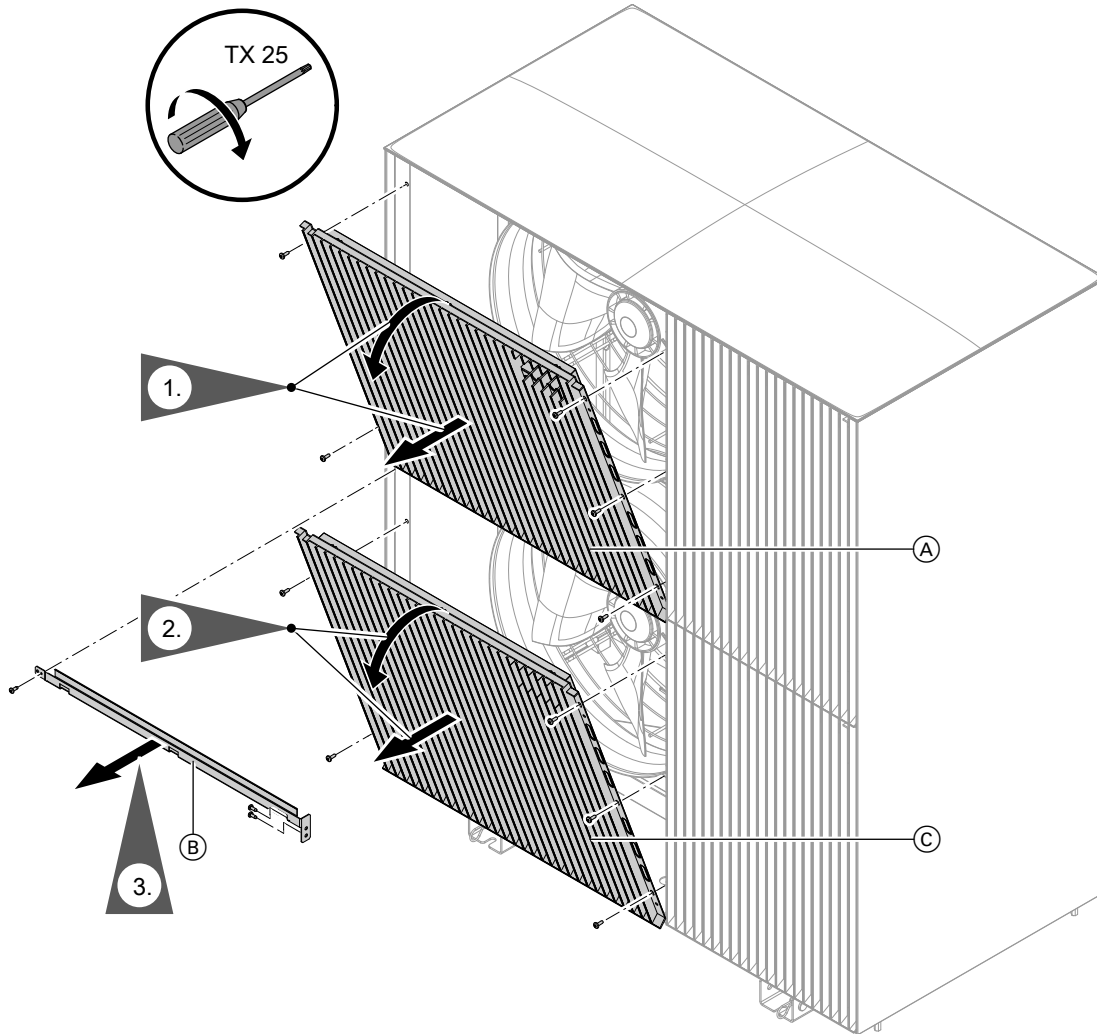

Fig. 103
3. Remove fan grilles and reinforcing strut: See Fig. 103.